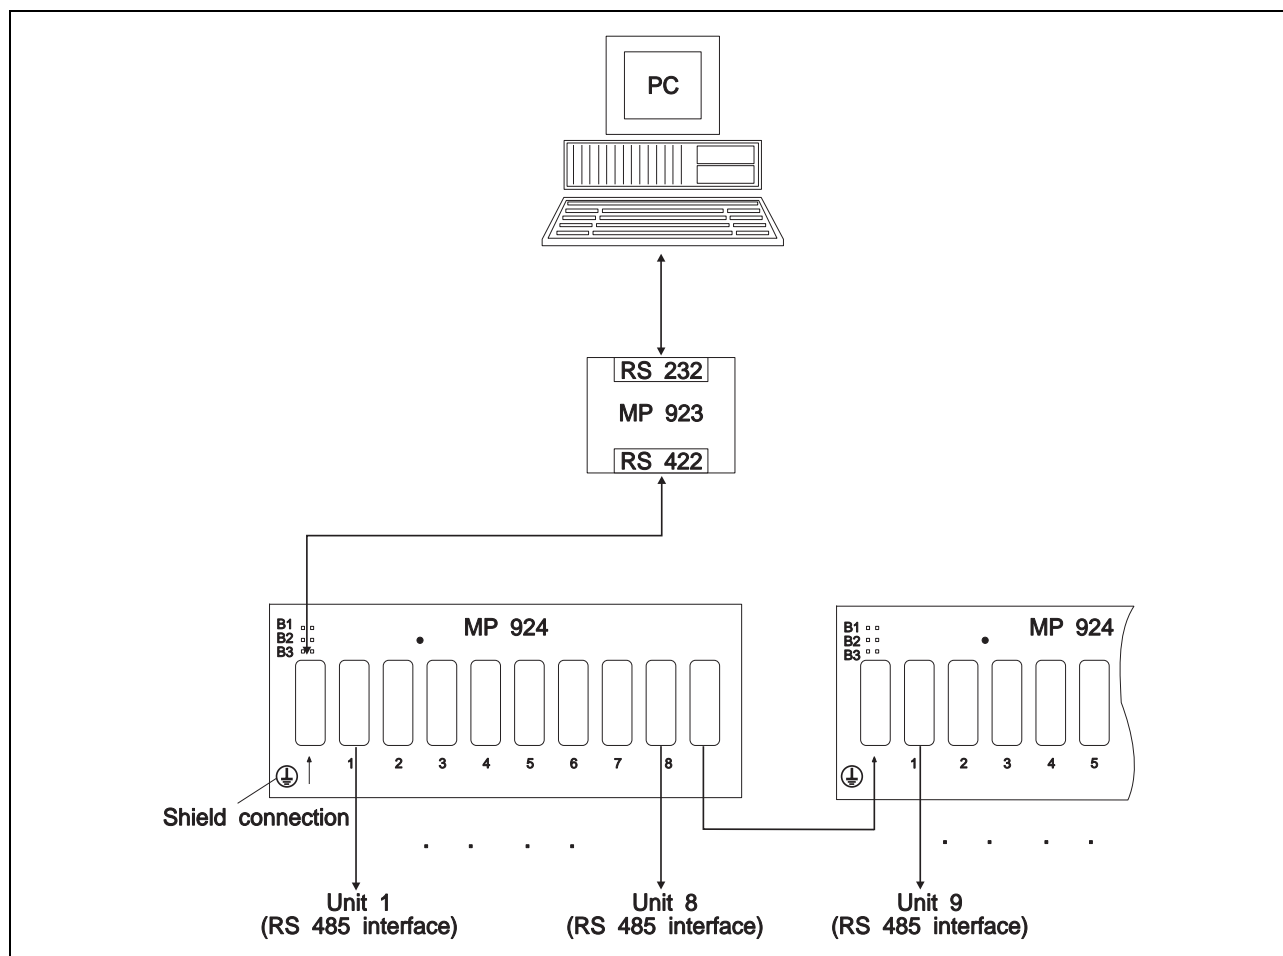

Fig. 6-22 Cabling of MP 924 interface distributor
1. Connect MP 924 interface distributor according to fig. 6-22. Use MP 923 interface converter for interface conversion RS 232 ↔ RS 485 (RS 422) (see chapter 6.2.14).
2. When several MP 924 interface distributors are used, they must be connected according to fig. 6-22.